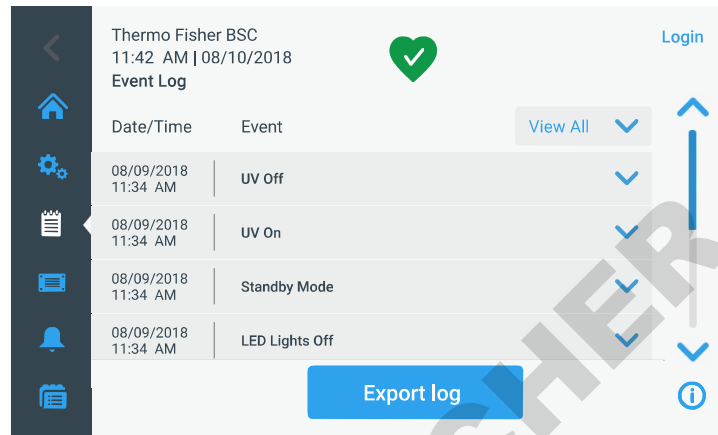

Figure 111 “Event Log” Screen: Standby Mode expanded
The “Event Log” screen shown in Figure 111 appears.
3. Tap on any list item in the event log to expand it and view more detailed information, as shown for the Standby mode item in Figure 111.